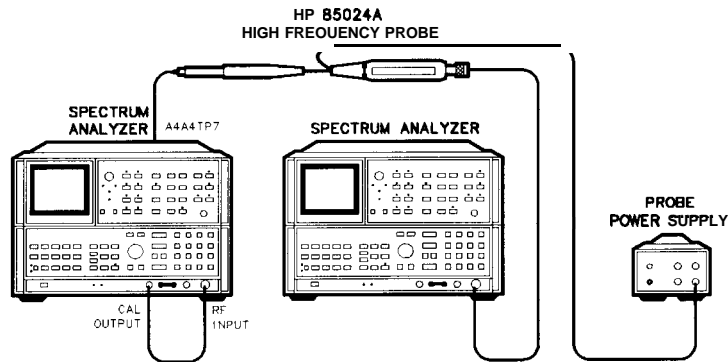

Figure 3-50. Down/Up Converter Adjustments Setup
1. Position Instrument upright as shown in Figure 3-50 and remove top cover.
- Connect the second spectrum analyzer to A4A4TP7 using and active probe. See Figure 3-50 for test setup.